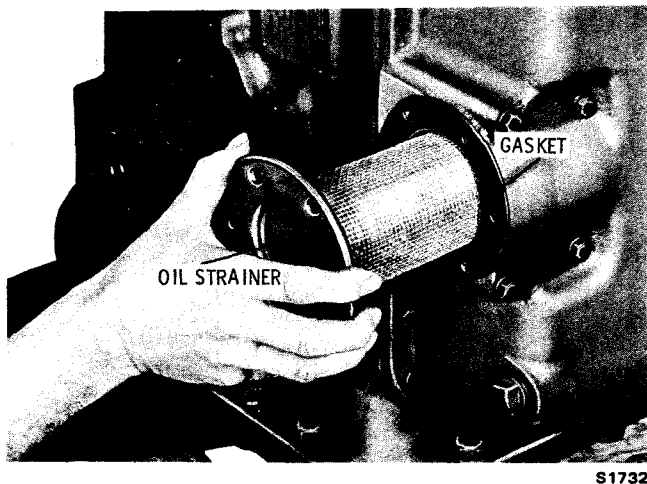

Fig. 7-95. Installing oil strainer assembly (straight-through models)
(4) Install the oil strainer gasket and oil strainer assembly into the transmission oil pan (fig. 7-95). Secure the oil strainer with six 3/8-16 x 7/8-inch bolts and lockwashers. Tighten the bolts to 26 to 32 pound feet torque.
(5) Install the lockup shift valve body gasket. Install the lockup shift valve body as-